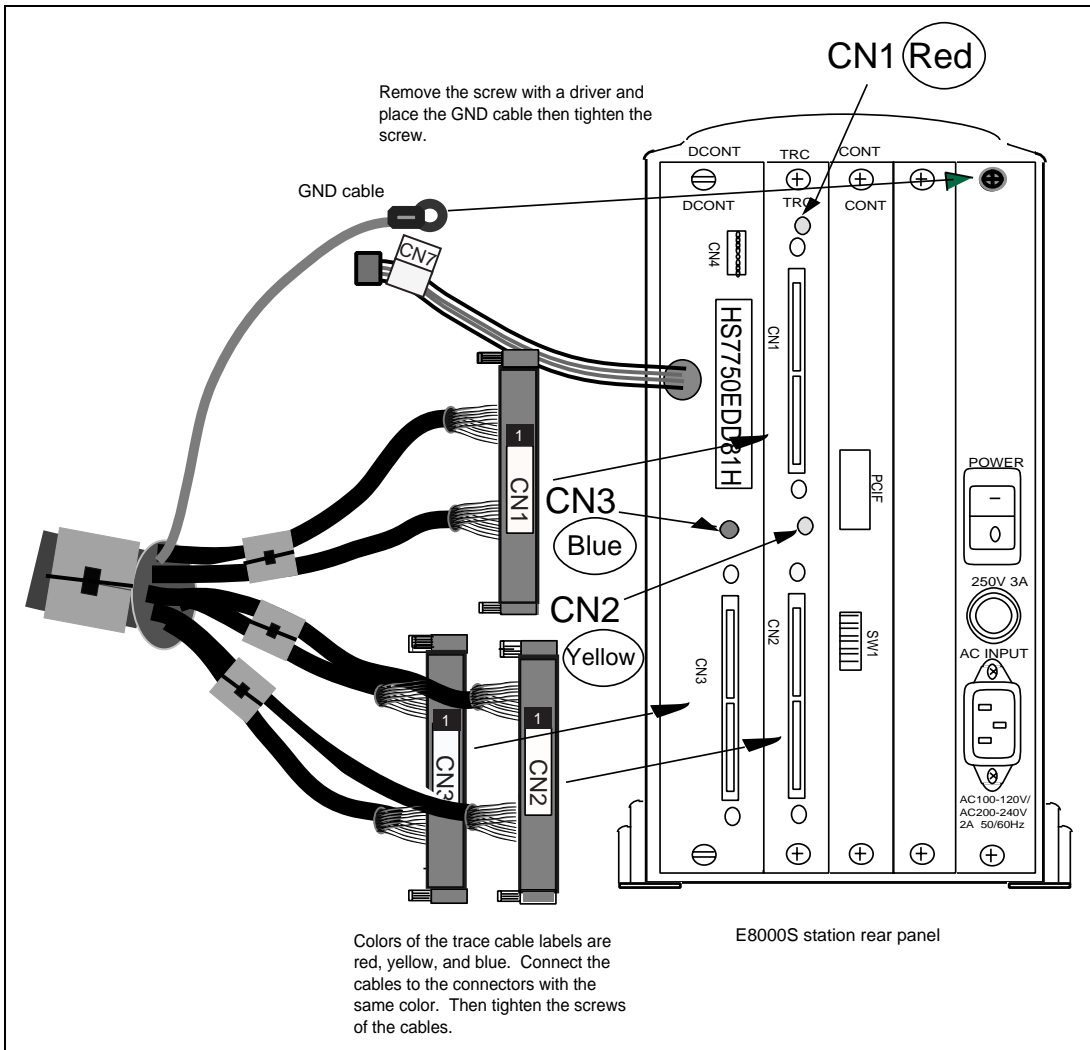

Figure 3.4 Connecting Trace Cables to the E8000S station
3. Connect the trace cables into the station to evaluation chip board interface connectors (CN1, CN2, and CN3) on the E8000S station's rear panel. Confirm that the shape of the trace-cable plug matches that of the station to evaluation chip board interface connector before connecting. Also note which trace cable is connected to which E8000S-station connector so that the other end of the trace cable is connected to the matching connector number on the evaluation chip board. After the connection is completed, alternately tighten the screws on both sides of the trace cable to prevent the upper or lower side of the trace cable from lifting off the connector. Figure 3.4 shows how to correctly connect the trace cables to the E8000S station connectors.